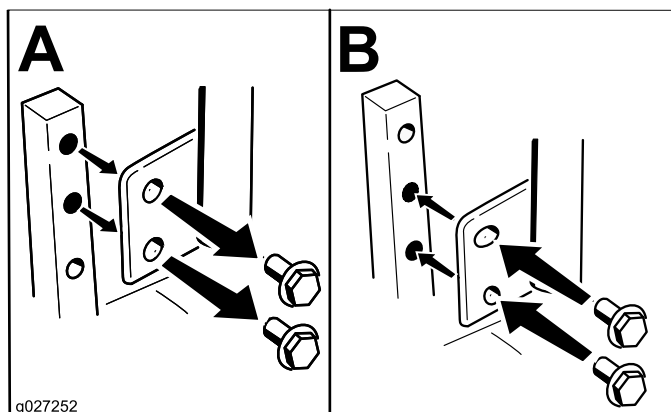

Figure 20
You can adjust the motion-control levers higher or lower for maximum comfort (Figure 20).
2. Loosen the lower bolt just enough to pivot the control lever fore or aft (Figure 20).